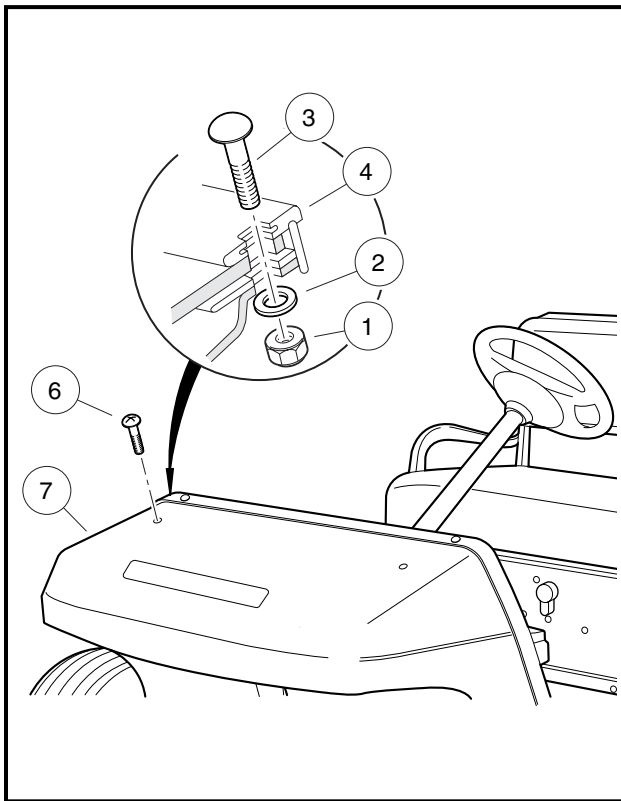

Figure 3 Remove Hardware from Front Body
- 2.1. Remove and discard the nuts (1), washers (2), and bolts (3) securing the trim (4) to the front body (7) of the vehicle (**Figure 3**).